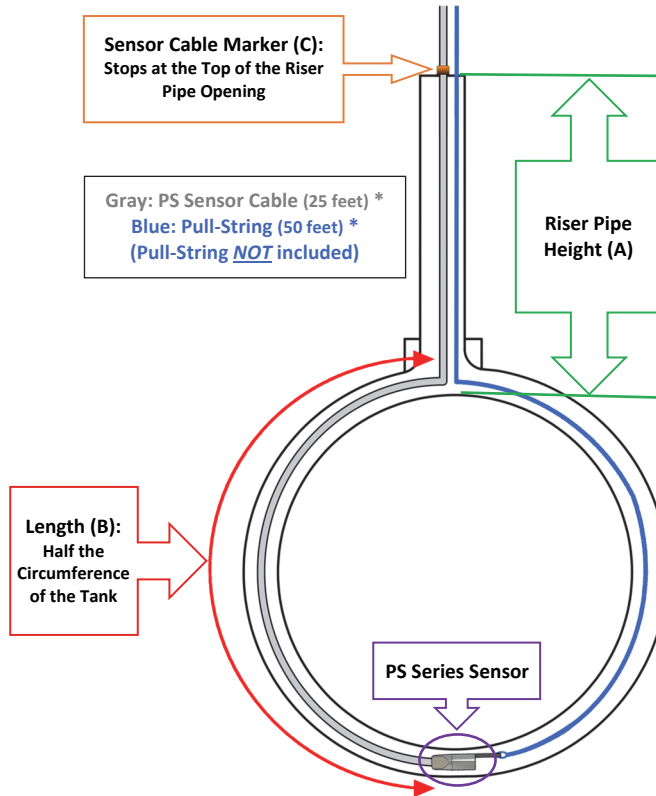

Figure 2.0 (cross section of a double wall tank with riser pipe)
The PS sensor (**Figure 2.0**; purple) must rest at the bottom-most point within the interstitial space of the double wall tank. Measure the RISER PIPE HEIGHT (A), (**Figure 2.0**; green). Add this value (inches) to the LENGTH column for the coinciding DIAMETER OF TANK. Reference **Table 2.0** (below) for STANDARD DIAMETER OF TANK and their respective LENGTH (B). LENGTH (B) refers to half the circumference of the tank (**Figure 2.0**; red).
This measurement determines where you will mark the SENSOR CABLE (**Figure 2.0**; orange), from the sensor prism. This marking ensures the sensor is properly positioned at the bottom-most point of the double wall tank. Incorrect calculation, marking, and deployment may result in improper functionality of the PS Series sensor.
Confirm no liquid is present in the annular space of the double wall tank. After installing the 50-foot pull-string (not included) into the space and back out the top of the riser, attach and secure the pull string to the eyelet hole on the PS sensor. Using the opposite end of the pull-string, lead the sensor into the riser and interstitial space until the sensor cable mark is at the top opening of the riser (**Figure 2.0**). This ensures the sensor is at the bottom of the double wall tank, based on your (**Table 2.1**) calculations.